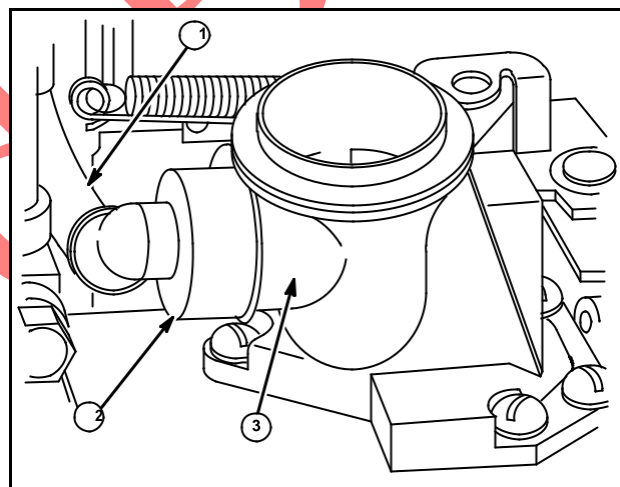

Fig. 11
The All-Temperature/Automatic Choke carburetor is equipped with a bimetal spring, (inside cavity), (3) which compensates for temperature and regulates automatic choke action. The bimetal spring reacts to crankcase air temperature via breather tube (1), attached to rubber elbow (2), Figs. 11 and 12.